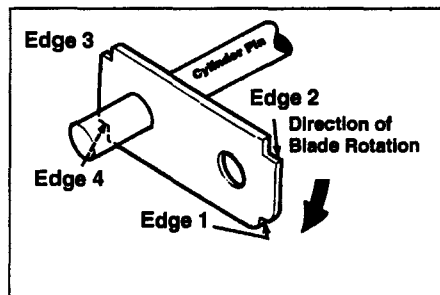

Figure 5-4
The shredder blades (flails) on the cylinder assembly can be rotated or flipped if dull (Figure 5-4). The shredder blades use only one cutting edge at a time.
- Flip or rotate the shredder blades as needed to expose fresh cutting surfaces (Figure 5-4). Replace the blade if all cutting surfaces are dull.